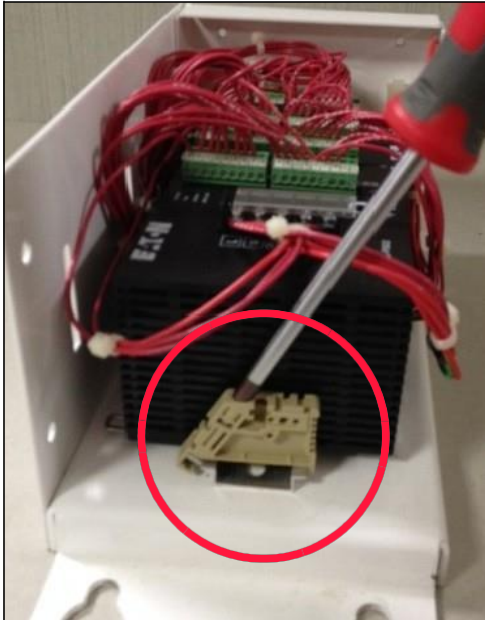

Figure 4. Panels Removed and Locking Mechanism.
1. Using the 5/16 socket, remove the lid and the rear cover. Also remove the right cover. See Figure 4.
2. Remove the locking mechanism on the din rail, Figure 4.
3. Flip the din rail lock out on the power supply using a screwdriver and carefully slide the power supply off the din rail and up and over the rest of the modules. See Figure 4 and 5. No wires need to be removed but there could be some wire ties that need to be snipped.